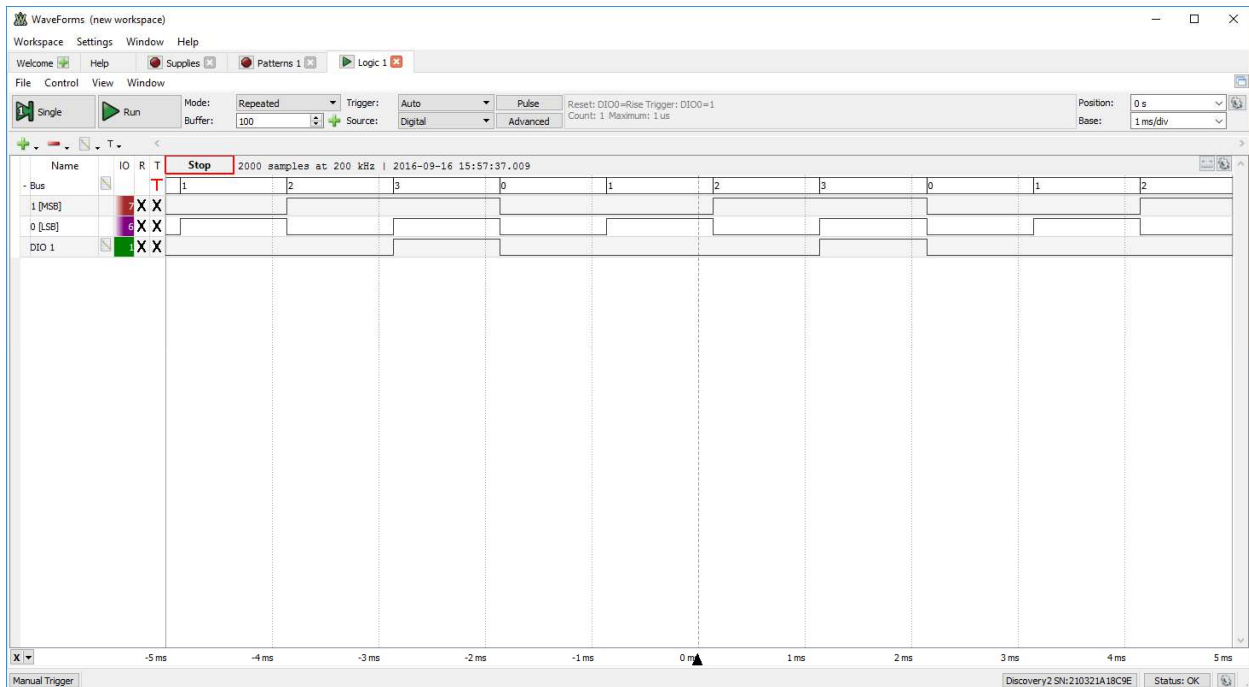

Figure 10: The Completed 7408 AND Gate Test
- e. **Verify** that the AND gate is functioning by comparing your logic analyzer timing diagram against the AND truth table. The timing diagram should look similar to Figure 10.